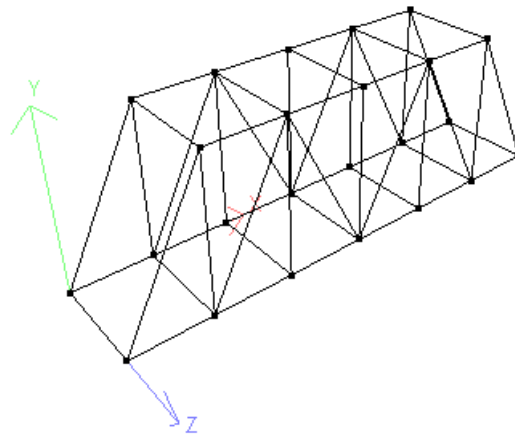

Figure 2-56 The howe bridge model
Step 5: Choose the **Apply** button; the model is created and displayed in the window, as shown in Figure 2-56.